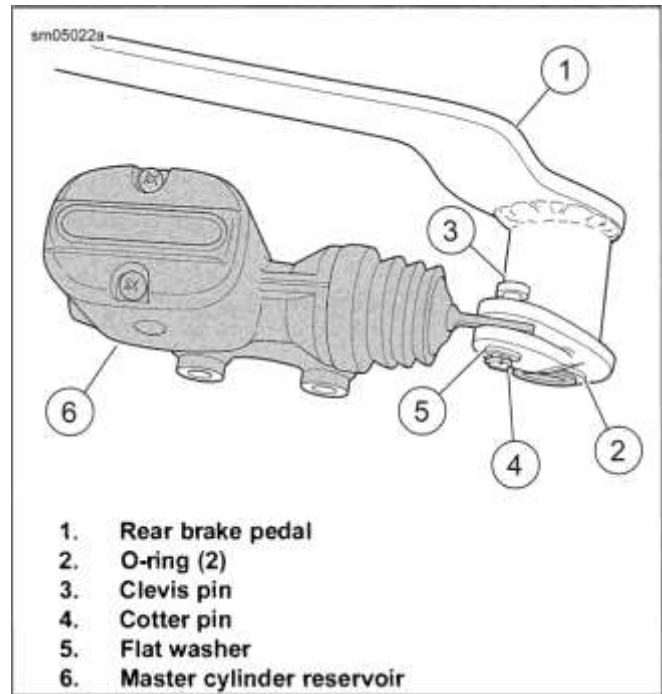

Figure 3-46. Rear Master Cylinder/Brake Pedal Assembly
2. See Figure 3-46. Disassemble master cylinder from brake pedal.
- a. Remove cotter pin (4) and flat washer (5) from clevis pin.
- b. Remove clevis pin (3).